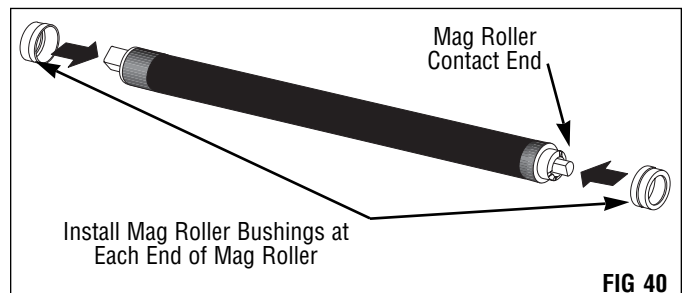

FIG 40
5. **Install a mag roller bushing on each end of the mag roller (FIG 40).**